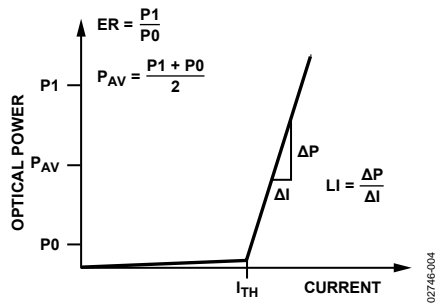

Figure 4. Laser Transfer Function
A laser diode (LD) has current-in to light-out transfer functions, as shown in Figure 4. Two key characteristics of this transfer function are the threshold current,  $I_{TH}$ , and slope in the linear region beyond the threshold current, referred to as slope efficiency, or LI.